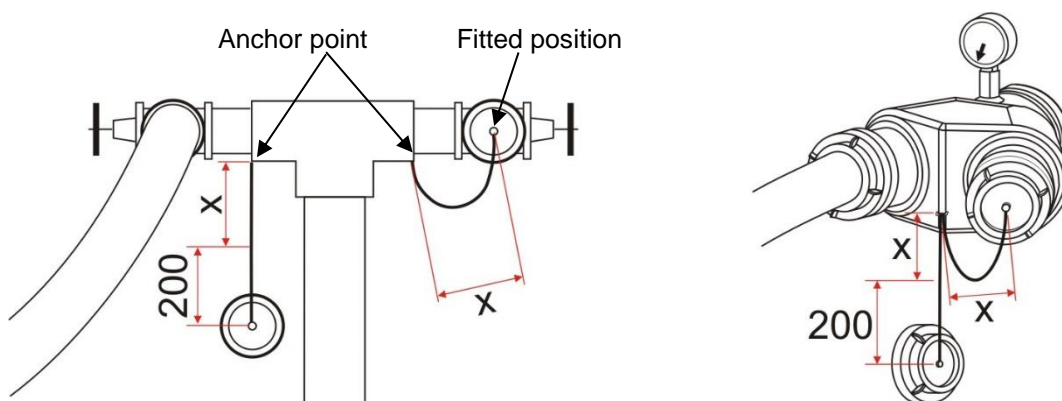

Figure 4 Example of free length required of retaining chain/wire
**Note:** FRNSW recommends a free length of approximately 200 mm longer than the distance from the anchor point to the fitted position (refer to Figure 4).